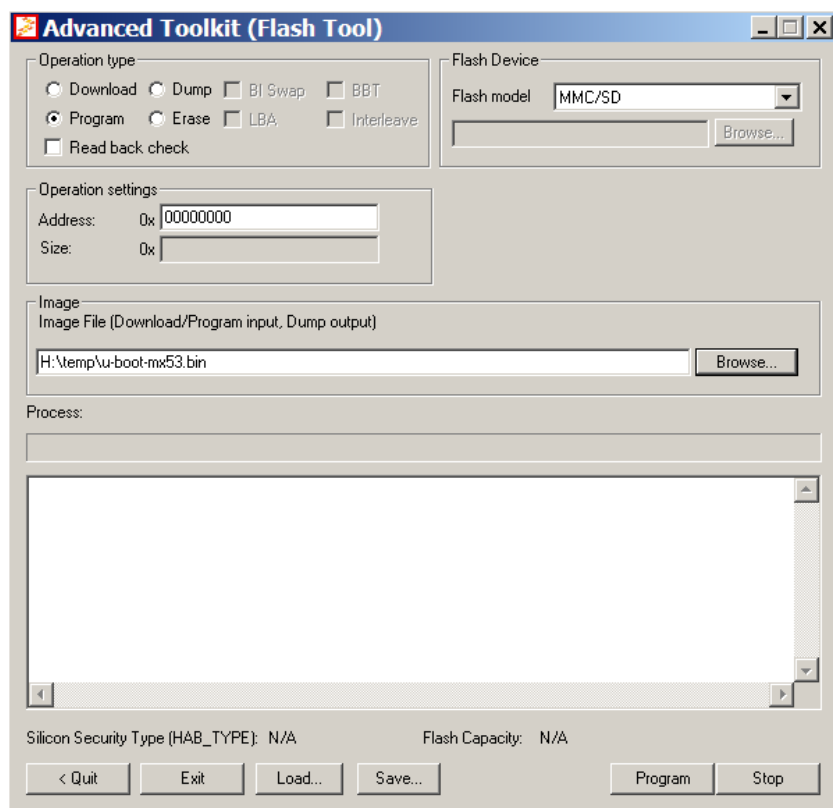
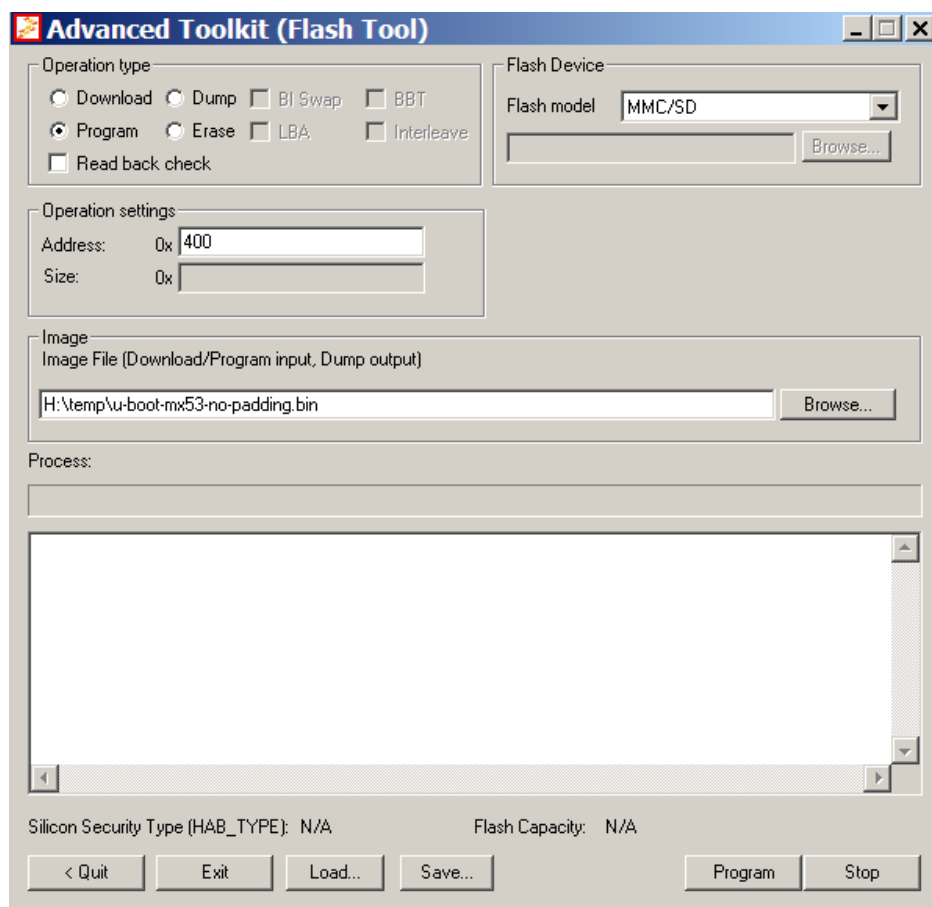

Figure 5-2 Programming U-Boot image to MMC/SD Flash
Figure 5-3 Programming U-Boot, no padding, to MMC/SD Flash
4. Program U-Boot by selecting options as shown in Figure 5-2 if no MBR is present in the MMC/SD. If MBR is already created in the card, which means the rootfs has been programmed to MMC/SD, program the no-padding redboot binary with the offset 0x400 as shown in Figure 5-3. Verify the selection before upgrading the bootloader; otherwise, the rootfs must be re-programmed if MBR is broken.